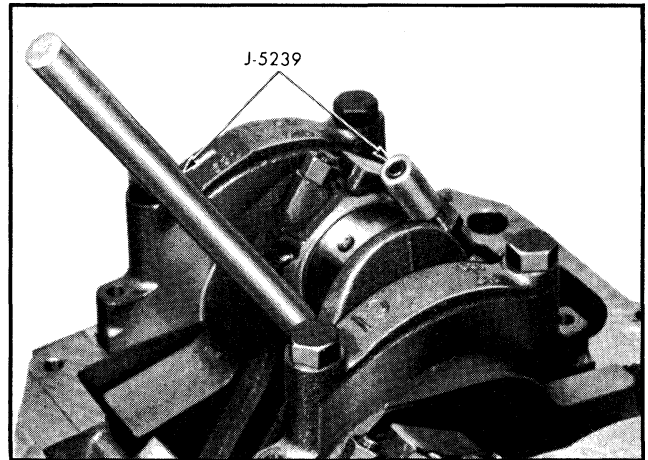

Fig. 6-137 J-5239 Positioned for Removal of Rod Connecting Bearing Shell
5. Install connecting rod bolt guide set J-5239 on connecting rod bolts (Fig. 6-137).
5. Carefully remove connecting rod and piston assembly by pushing out with knurled handle of long guide (Fig. 6-137).